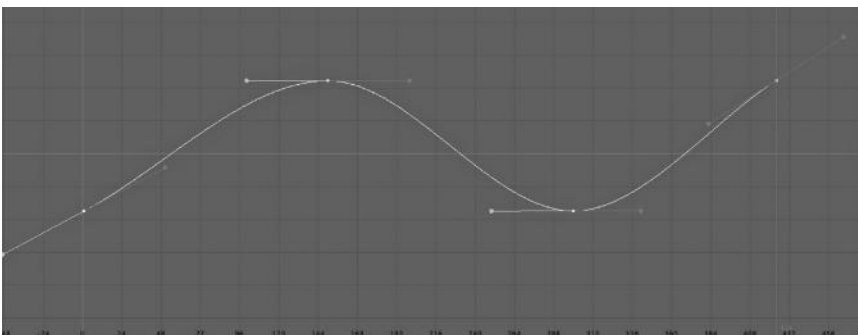

FIGURE 5.27 Example of smooth tangents at work.
**Smooth tangents**—Smooth tangents change the selected tangent handle to be perpendicular to the normal of the animation curve, which usually results in completely smooth motion. It is smooth because the rate of change stays steady from one point to another, even through one keyframe to another. The rate of change stays the same not just from one keyframe to another, but throughout multiple keyframes (which is why it is often known as “smooth”). Figure 5.27 shows a simple smooth tangent on an animated motion graph curve. One important thing to note is that two keyframes with exactly the same